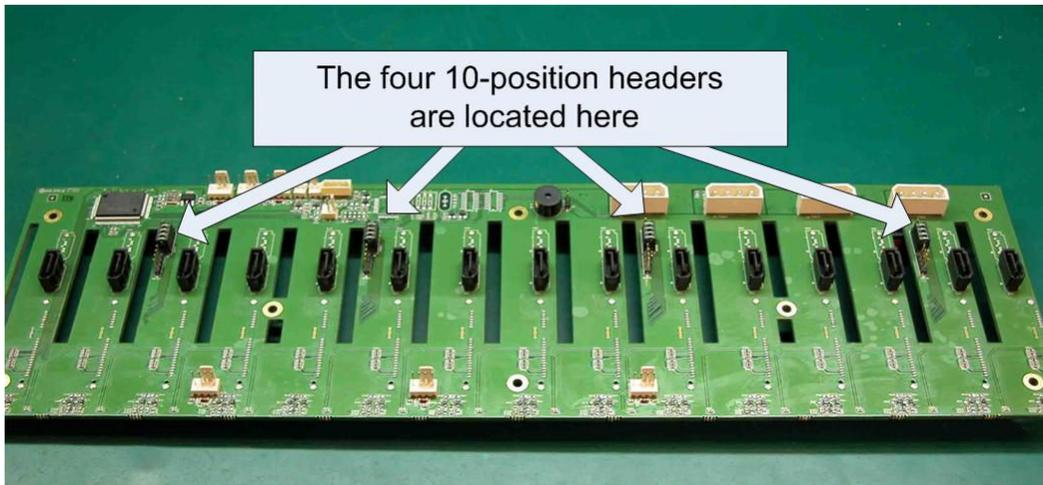

**Figure 3: Identifying the chassis backplane**
Step 5) Remove the top cover from the DSN-3200/3400. Located in the middle of the chassis is the chassis backplane as shown in figure 3.
Step 3) Please remove the cover from your DSN-3200/3400 to gain access to the chassis backplane PCB. The backplane is identified in figure 3.